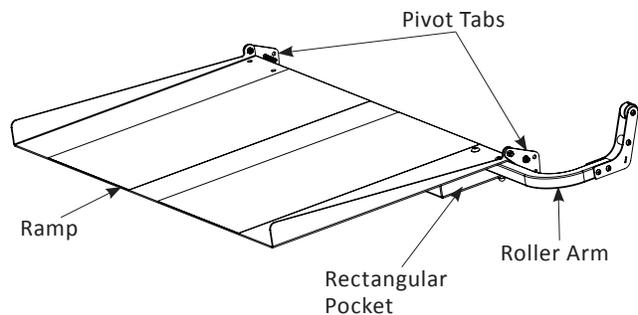

Figure 4-5
1. Attach the two ramp pivot tabs to the lower landing sides of the platform using three (3) ¼"-20 x 2" bolts that go through the guard panel post, and thread into the platform.
2. Assemble ramp roller arm into the rectangular pocket of the ramp with the provided hardware. *See Figure 4-5.*